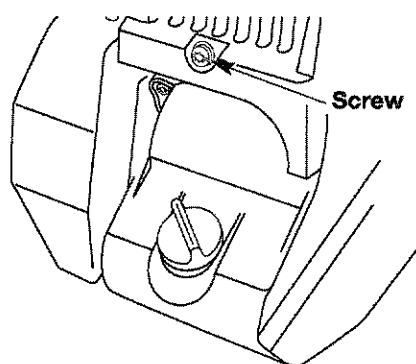

Fig. 53
- Remove the screw on back of the engine cover (Fig. 53).